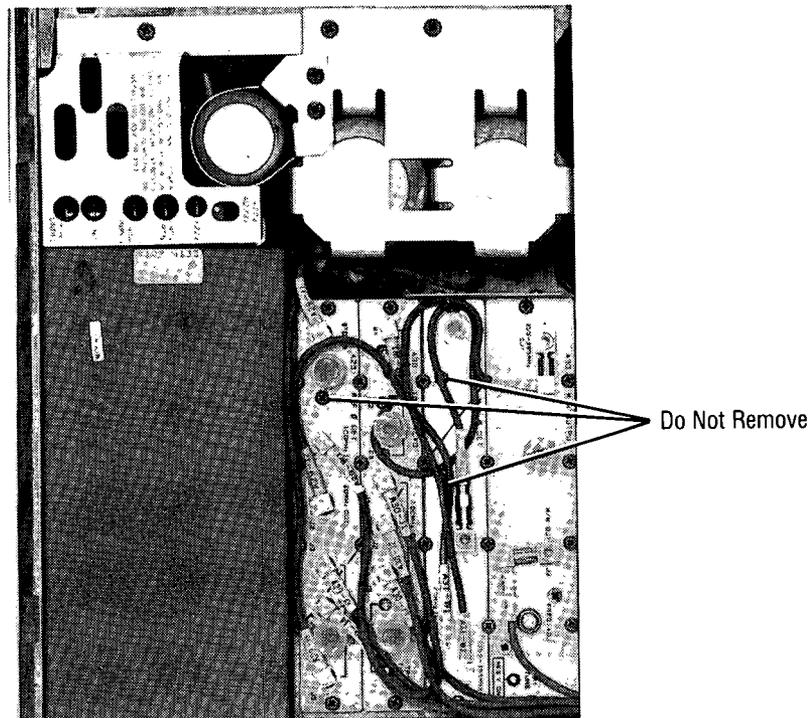

Figure B-23. Reference Loop — M/N Loop Assemblies and Mounting Hardware
3. Refer to Figure B-23, VIEW D. Using a small flat-head screwdriver or connector removal tool, disconnect the ribbon cable from the A13 SYTM.
4. Refer to Figure B-23, VIEW C. Remove the following cables from components on the RF deck:
10. Refer to Figure B-23, Reference Loop — M/N Loop Assemblies and Mounting Hardware. On the bottom of the instrument, remove all cables going to the A29, A30, A31, and A33 assemblies.
11. Again refer to Figure B-23. With a small pozidriv, remove all 28 screws that hold the A29, A30, A31, and A33 sheet metal covers in place. Note that 3 screws are shown in Figure B-24 which do not need to be removed. Remove the A29, A30, A31, and A33 assemblies.
Reinstall the A29, A30, A31, and A33 assemblies, along with the 28 retaining screws. Reconnect all cables. (Refer to Figure B-23 if necessary.)